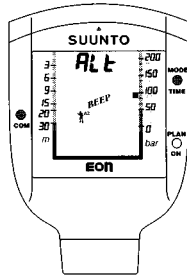

Fig. 4.14 ALTI-TUDE/PERSONAL ADJUSTMENT SETTING, step 4
4. Connect the TIME/MODE and COM contacts to confirm this new altitude/personal adjustment mode (Fig. 4.14). A beep is heard, the blinking will stop and the other mode indicators will disappear.